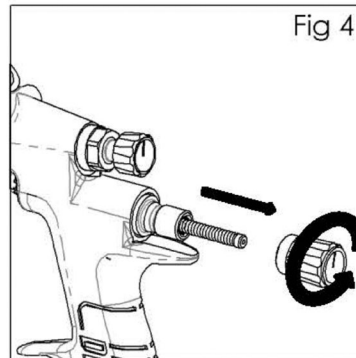

Fig 4
3. Remove fluid adjusting knob (28) and spring (29). (See fig 4).